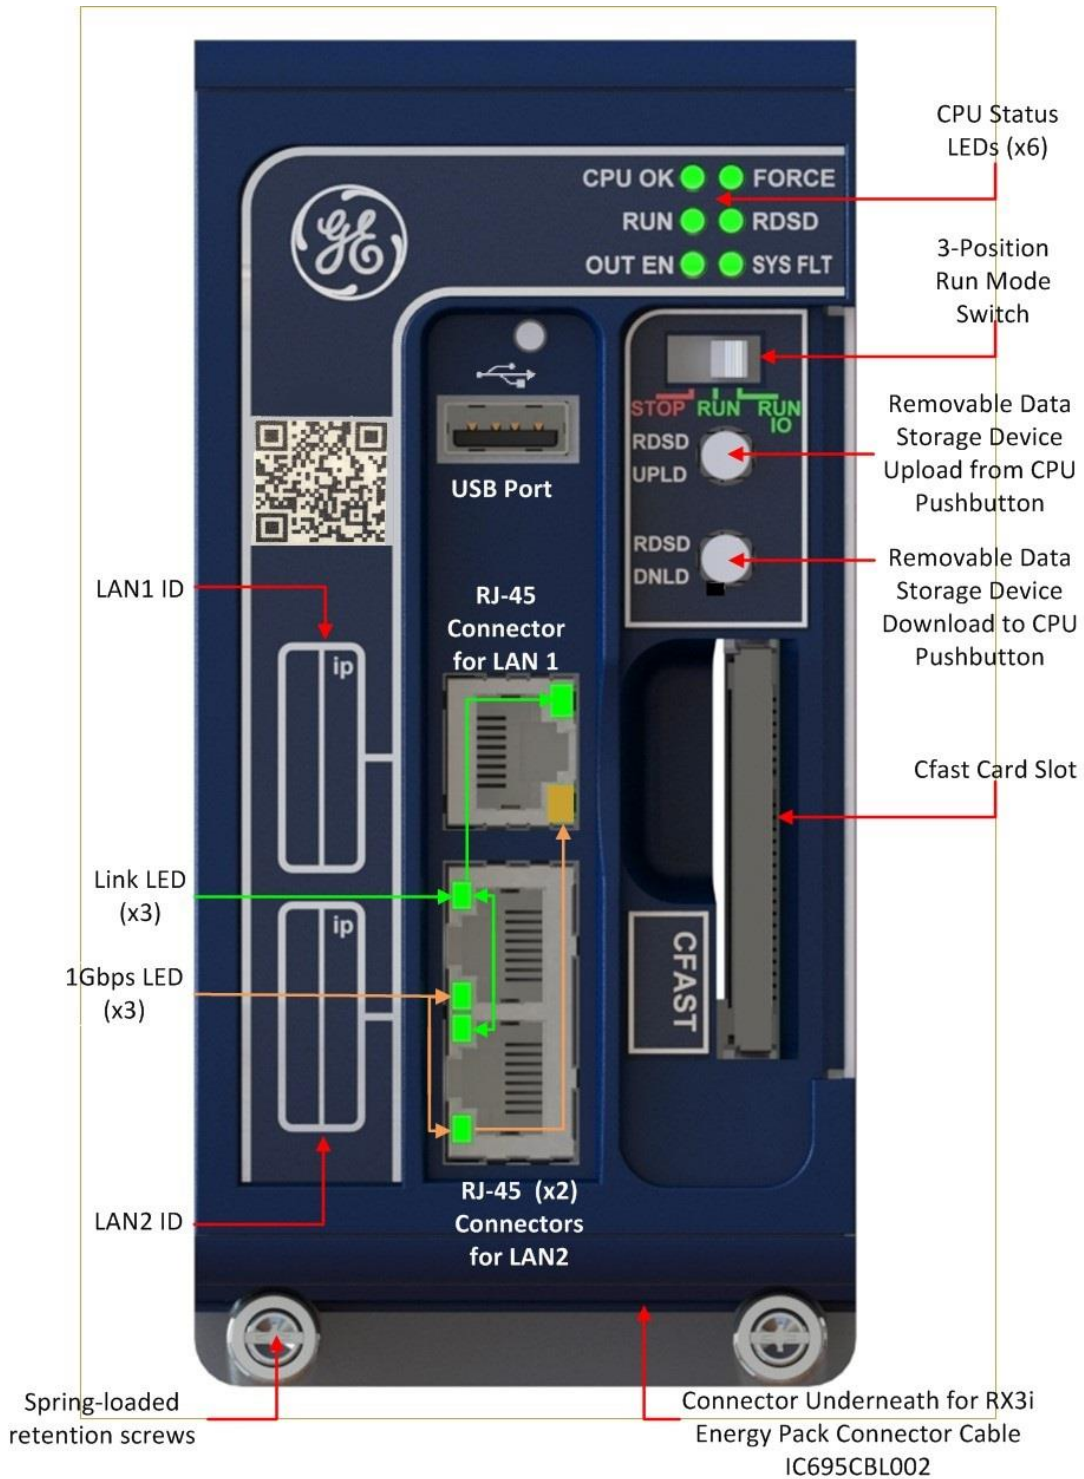

Figure 23: CPE330 Front View & Features
- LAN1 connects to the uppermost RJ45 connector (Figure 23). It is not switched.
Space is provided beside each connector (Figure 23) to record the IP address used on each LAN.